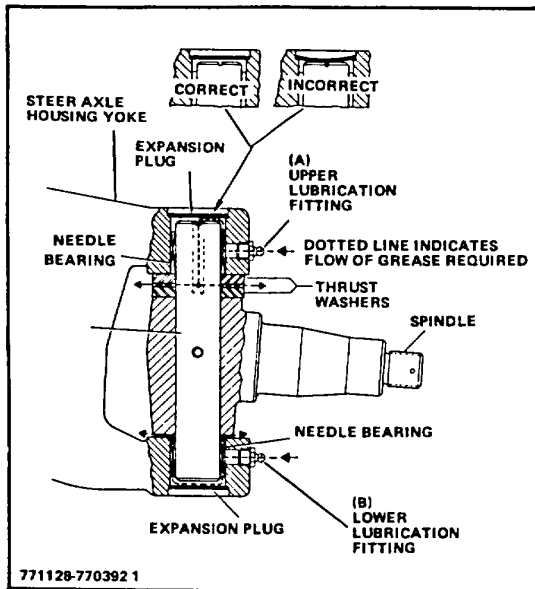

Figure 1-6. King Pin Installation
1. Install the king pin needle bearings in the steer axle flush with the casting surface (Fig 1-6).